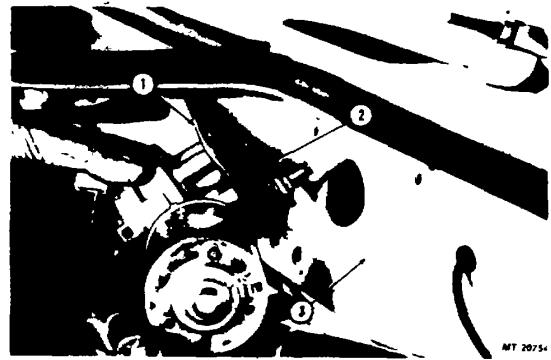

Fig. 5 Removing Windshield Wiper Motor
3. Remove wiper motor bracket mounting bolts and detach motor assembly. Drive lever should remove through hole in cowl (Fig. 5).